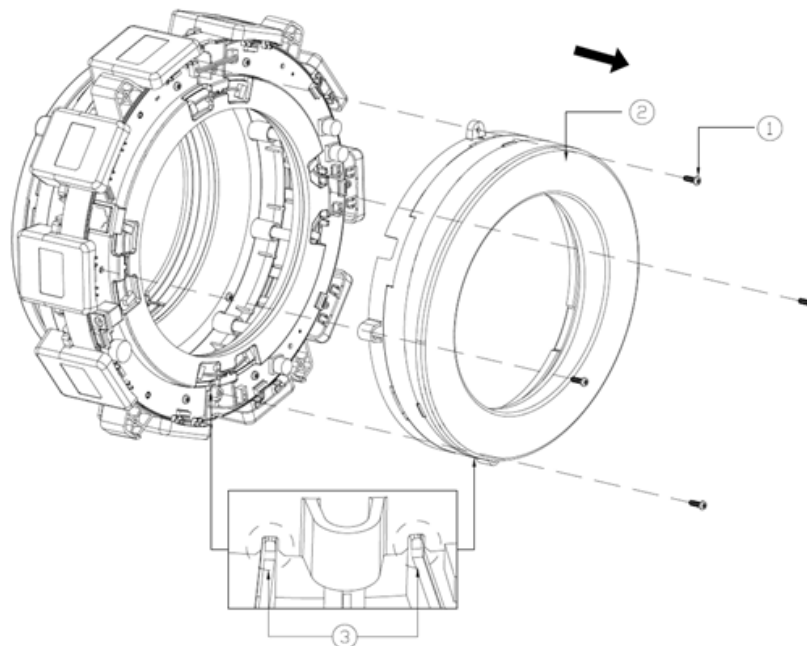

Figure 6-1
(6) Remove the Indicator Support Package
As shown in Figure 6-1, remove the 4 screws (1), then move the indicator support (2). The specification of the screw is the self-tapping screw, ST3*10mm.